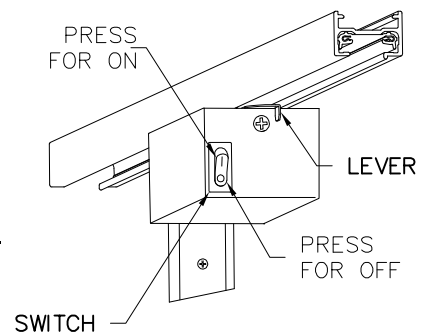

FIG. 2
4. Turn LEVER to position shown in FIG 2. to mechanically secure BALLAST HOUSING.